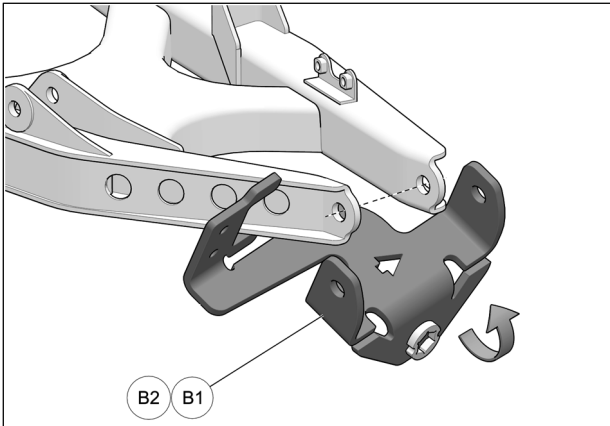

Fig. 6
7. Pivot and work anchor bracket (**B1-B2**) upwards to install on suspension arm. Align anchor bracket bolt holes with suspension arm bolt holes. Fig. 6